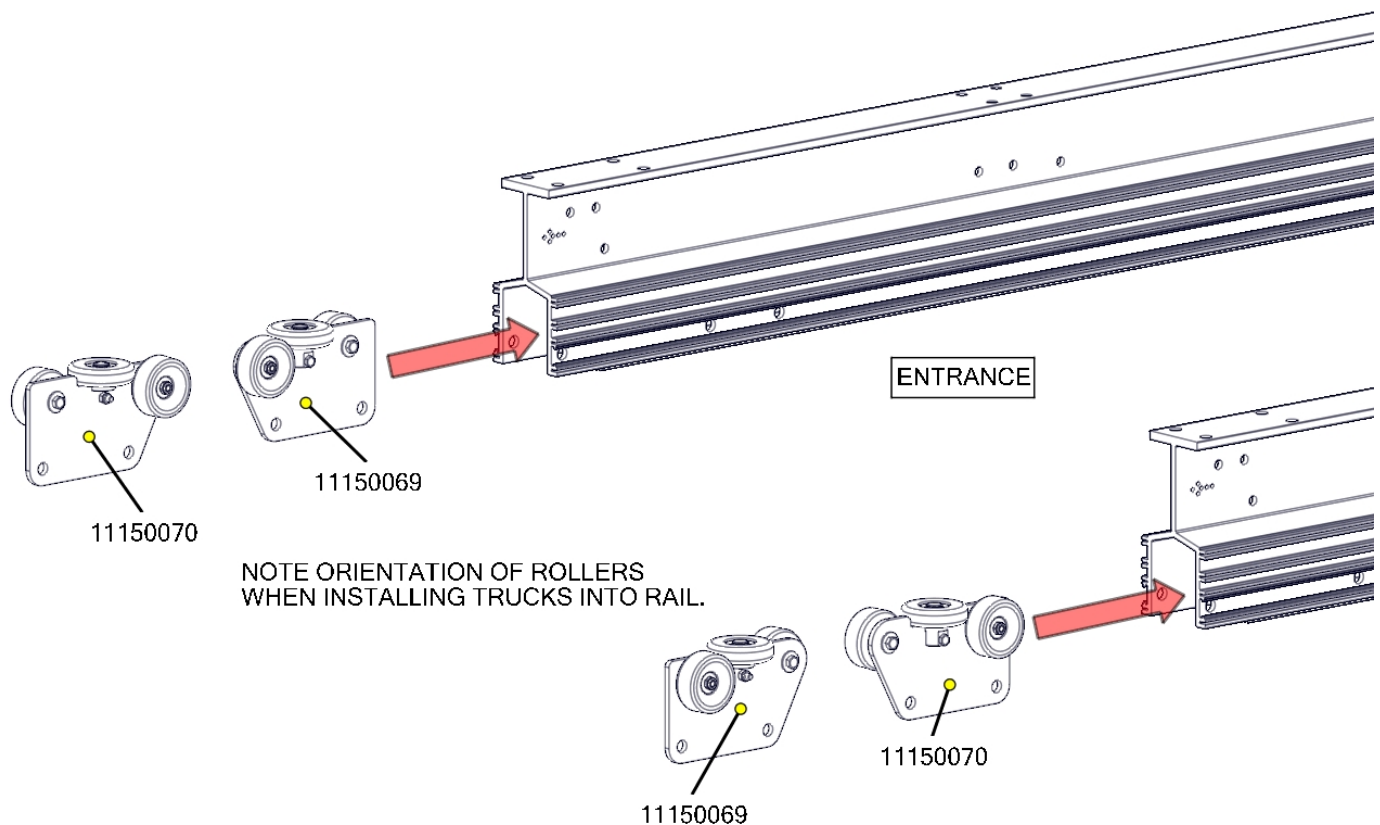

Figure 51 - Install Trucks into Main Rails
When installing the bridge trucks into the rails, make sure the rollers are oriented with the horizontal rollers facing towards the ends of the main rails, Figure 51).
- Install the bridge trucks inside the rails, Figure 51). Make sure the trucks are oriented with the horizontal rollers away from each other (facing the ends of the main rails).